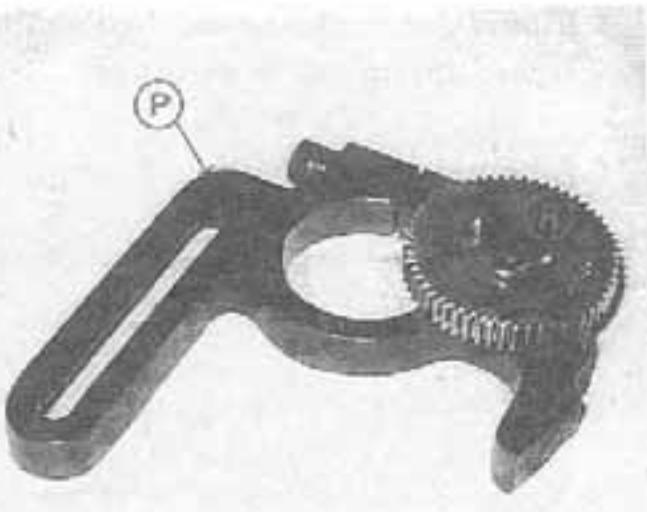
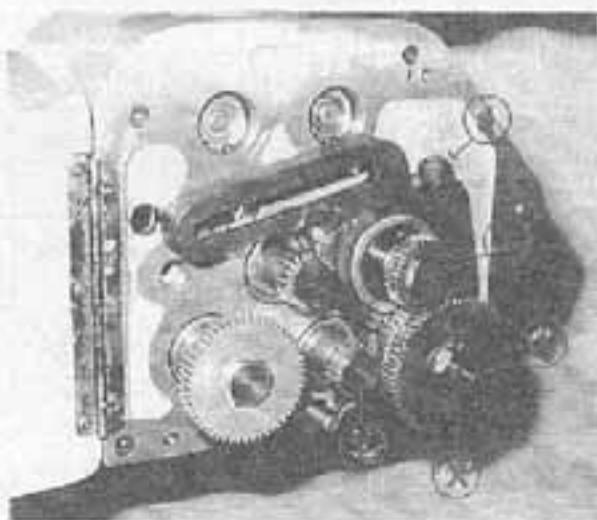

Figure 8 - Change Gear Bracket
Figure 9 - Mounting Change Gear Bracket
2. On metric side of change gear bracket "P" Figure 8 mount "Idler Gear" "R". Do not tighten bolt "S" fully.
4. Mount change gear bracket assembly, Figure 8, on pivot post "V", Figure 9. Do not tighten bracket bolt "U" fully.
6. Mount "First Gear on Screw" "T", Figure 9.